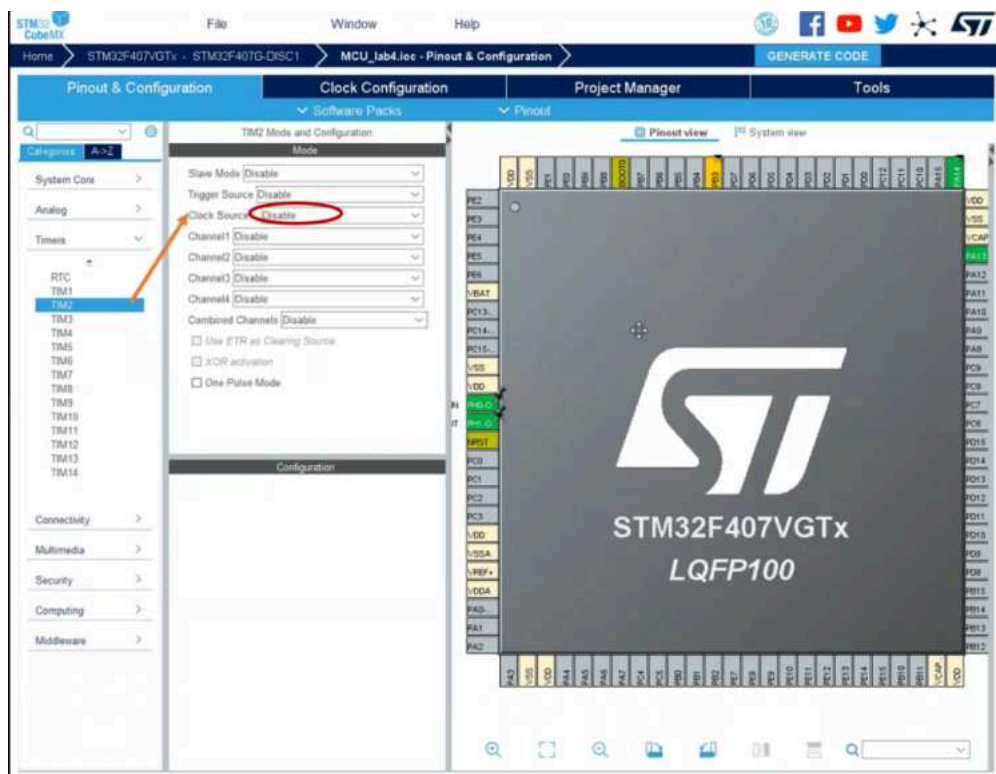
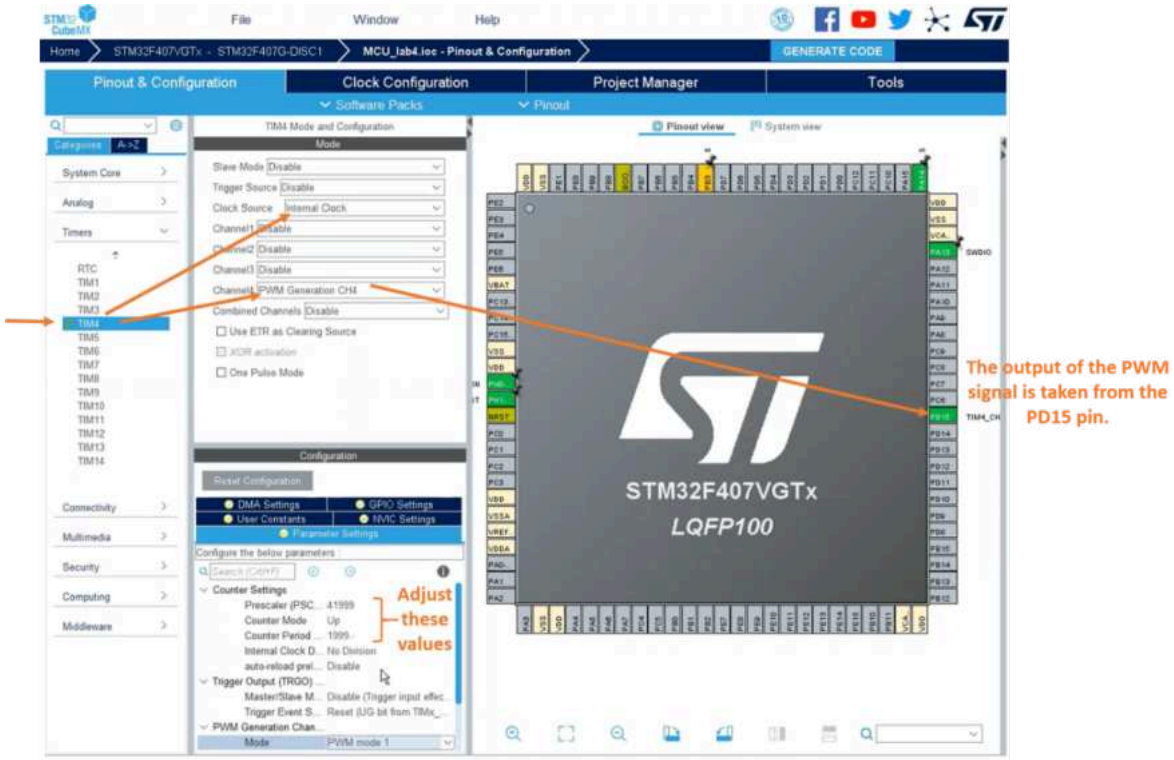
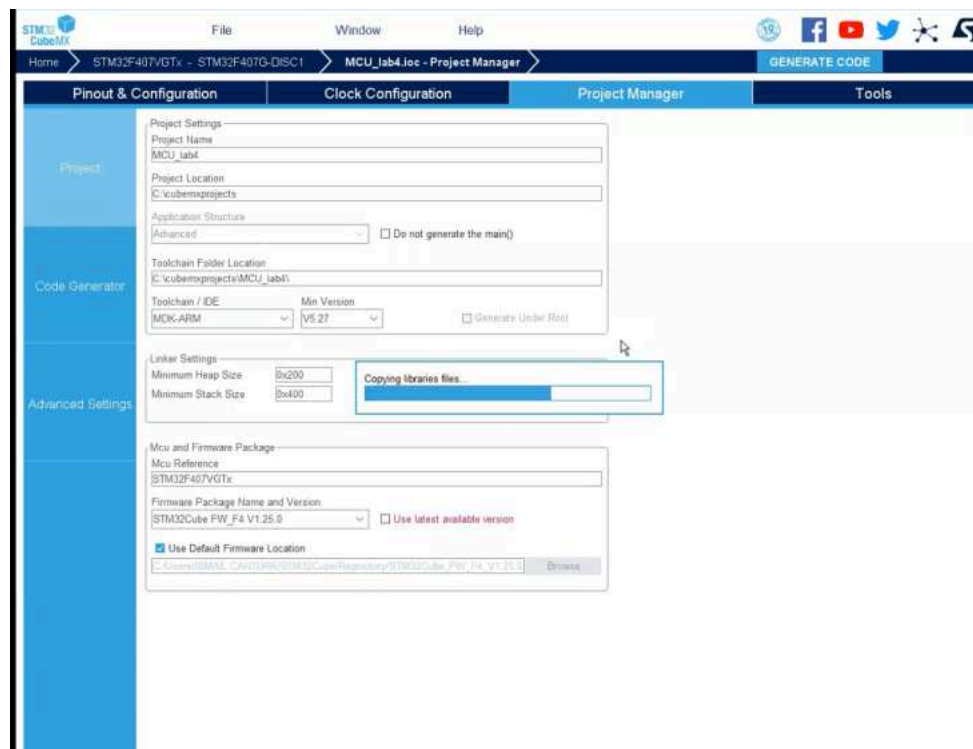

Figure 13
Figure 14
Figure 15
- Close the Keil μ Vision and go back to CubeMx to generate a PWM signal. Use another TIM (TIM4) so disable the clock source for TIM2 (Figure13). Find out which bus TIM4 is connected from the reference manual. Then come back to CubeMx and check the speed of this bus in the Clock Configuration tab. Then come back to Pinout&Configuration tab and choose which timer you will use (we will use TIM4) and make the necessary settings for this timer (select clock source as internal clock and PWM Generation CH4)(Figure 14). Adjust these settings as prescaler value is 41999, counter mode is up, counter period is 1999. Explain what the meaning of these adjustments are. Come to the Project Manager tab and set necessary configurations here. Then you can continue with the same Keil μ Vision file (Figure 15).